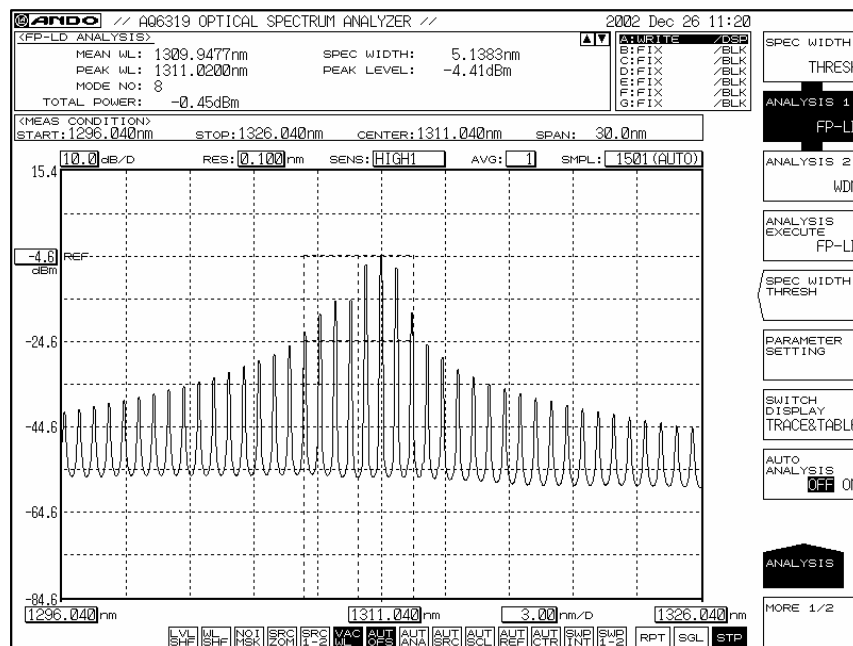

Fig. 5-23 Parameter analysis for various light sources (FP-LD)
- ① Prepare the measurement system shown in Fig. 5-23.
- ② Measure the waveform of the wideband light source. Perform sweeping after setting the measurement conditions so that it is possible to measure the entire wavelength range of the light source. (➤ See section 5.2 Basic Measurements)